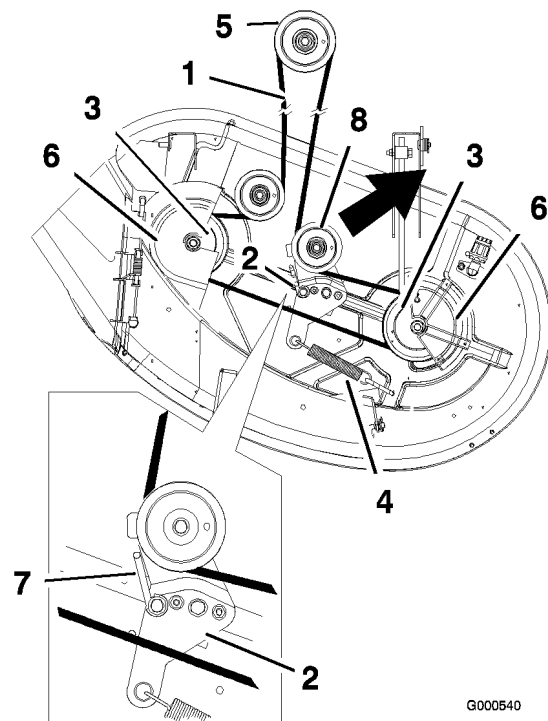

Figure 48
4. Remove the belt covers over the outside spindles and loosen the belt guide (Figure 48).
5. Pull the idler pulley in the direction shown in Figure 48 and roll the belt off of the pulleys.
6. Route the new belt around the engine pulley and mower pulleys (Figure 48).
7. Pull the idler pulley in the direction shown in Figure 48 and route the belt onto the idler pulley (Figure 48).
8. Rotate the belt guide, on the idler arm, towards the pulley until it stops (Figure 48).
9. Tighten the belt guide (Figure 48).